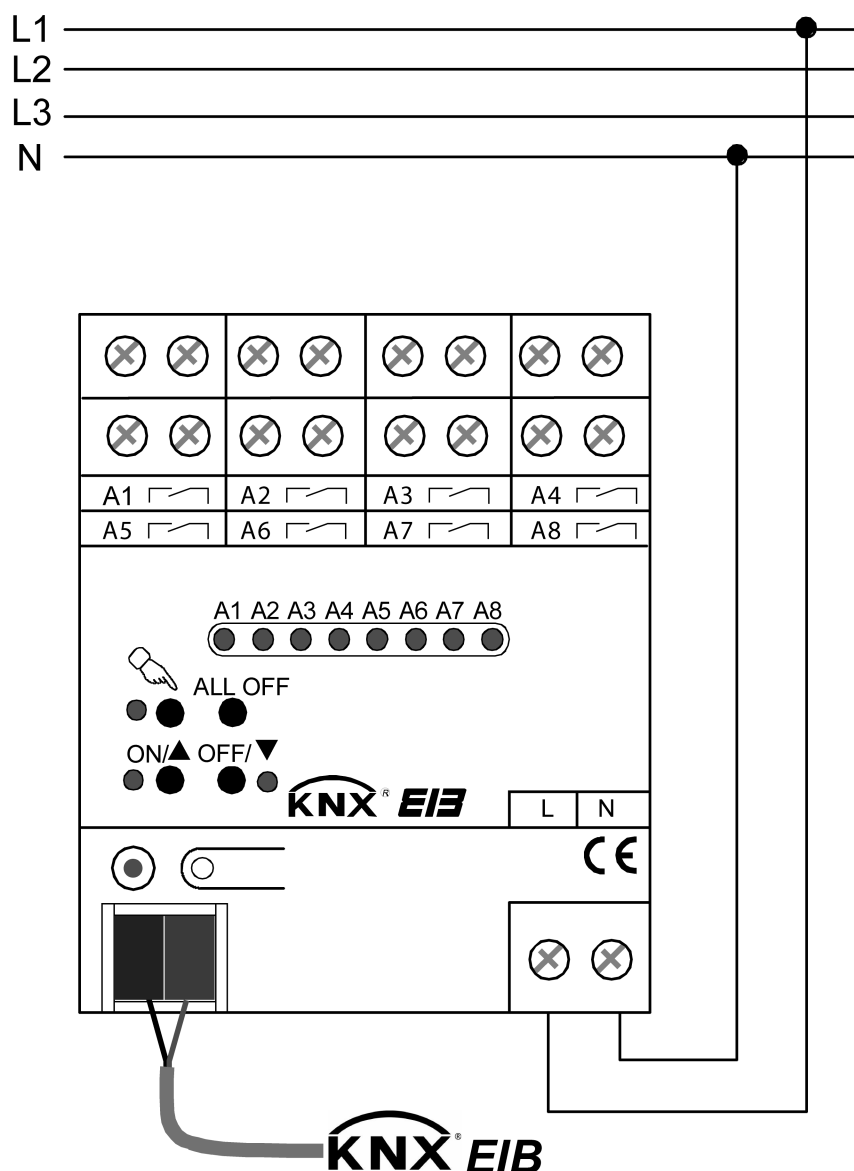

Figure 2: Electrical connection of mains voltage
- The bus connection (standard bus terminal) and the connection for the mains voltage supply should be carried out according to the following connecting diagram (Figure 2).